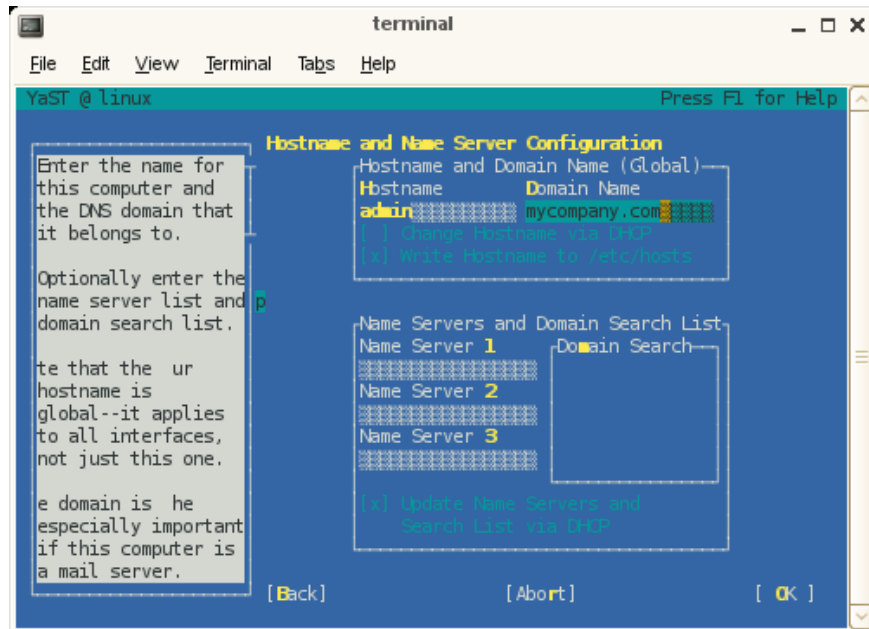

Figure 2-7 Hostname and Name Server Configuration Screen
- 11. From the **Hostname and Name Server Configuration** screen, enter the name and DNS domain name as shown in Figure 2-7 on page 42. Note that the hostname was entered in step 7.